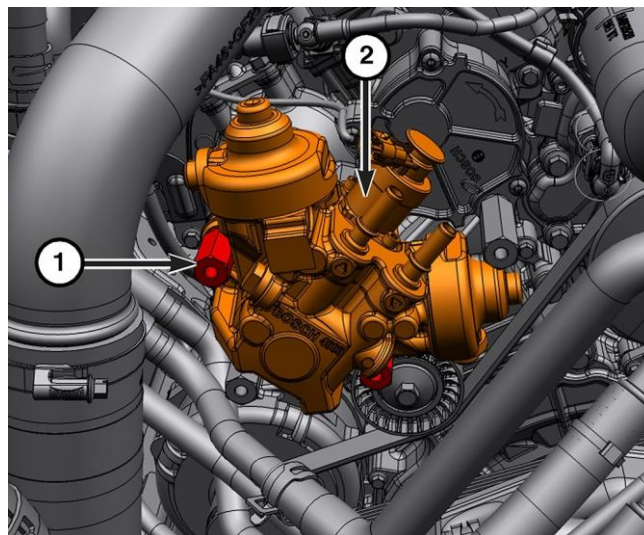

Figure 62 – HPFP Upper Bolts
7. Remove the upper bolts (1) from the high-pressure pump (2) (Figure 62).
23. Install the Tool, High Pressure Pump Installation VM.10345 into the studs installed in the upper timing cover and install the HPFP to the engine (Figure 62).
24. Install the lower fuel injection pump (2) and hand tighten the bolt (1) (Figure 62).